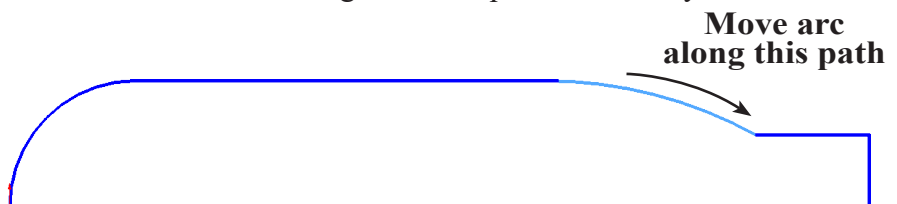

**Fig. 3**
- Step 2. Click **Centerpoint Arc**  (S) in the **Arc flyout**  on the Sketch toolbar.
- Step 3. Click the bottom horizontal line close to the Origin to place the center of the arc. Click the Origin to start the first arc endpoint, then move cursor around clockwise to swing arc 90 degrees. Click to place the second endpoint, **Fig. 3**. Use the inferencing line, the dotted line that appears when you sketch the arc 90 degrees.